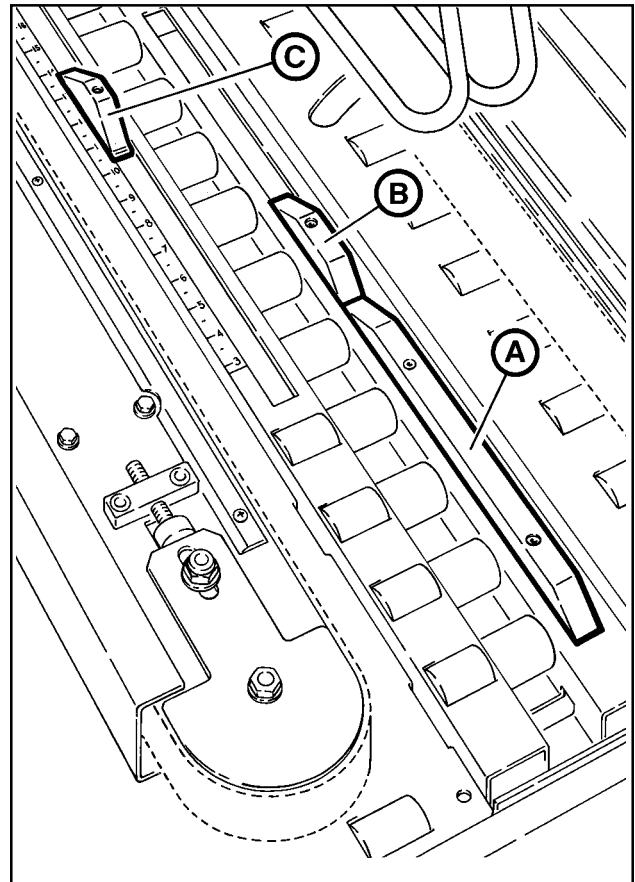

Figure 3-4 – Gate/Kicker Cams
- ⑨ **Gate Cams Figure 3-4**
- ⑩ **Kicker Cam Figure 3-4**